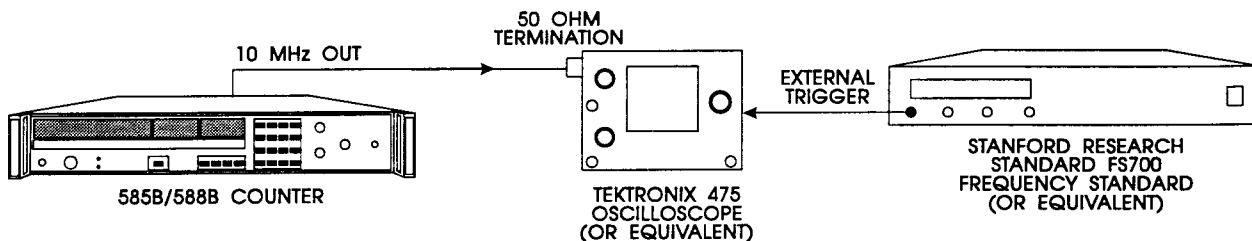

Figure 11-16. Timebase Calibration Setup.
2. Set up the equipment as shown in Figure 11-16 and as described below.